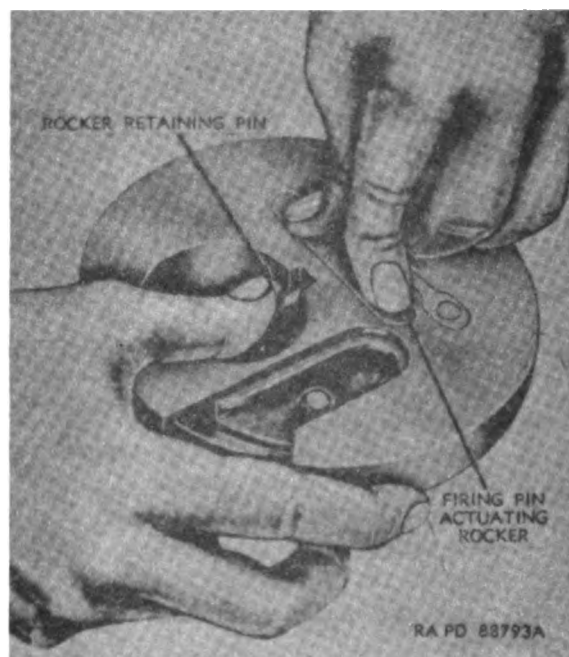

Figure 195. Installing rocker retaining pin.
- (2) *Assemble firing mechanism.* Prior to assembling the firing mechanism, clean and lubricate all parts. Insert the rocker plunger, firing pin spring, and firing pin into position in the breechblock (fig. 189). Position the rocker retaining pin and firing pin actuating rocker in position. Hold the rocker retaining pin down with the thumb, while exerting pressure against the firing pin actuating rocker (fig. 195) until the rocker retaining pin can be started through the firing pin actuating rocker. Push this pin in until the rocker pin latch spring enters the groove in the rocker retaining pin.